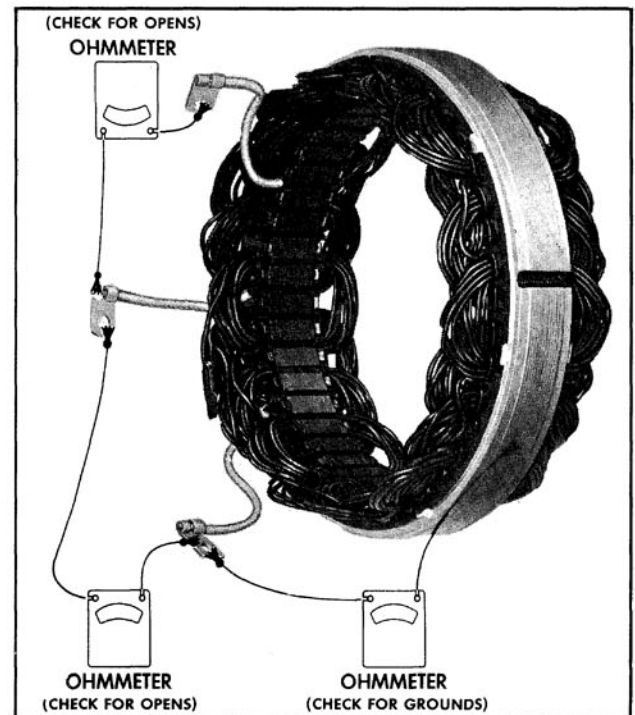

Fig. 13-37 Checking Stator
- frame. If the lamp lights or the ohmmeter reading is low, the winding is grounded and the stator must be replaced. If lamp does not light or no ohmmeter reading can be obtained, repeat procedure on the other two stator leads. (Fig. 13-37)
- B. Connect a 12-volt test lamp or an ohmmeter between each pair of stator leads. If the lamp fails to light or the ohmmeter reading is high between any pair of leads, the stator winding is open and the stator must be replaced. (Fig. 13-37)